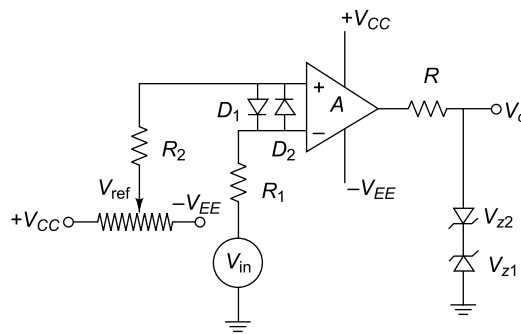

Fig. 5.96
34. Figure 5.96 shows a comparator circuit where $V_{Z1} = V_{Z2} = 10 \text{ V}$, $V_D = 0.6 \text{ V}$, $V_{ref} = +3 \text{ V}$, saturation voltage $\pm 14 \text{ V}$, and $V_{in} = 2 \sin \omega t$. Draw the output voltage waveform.